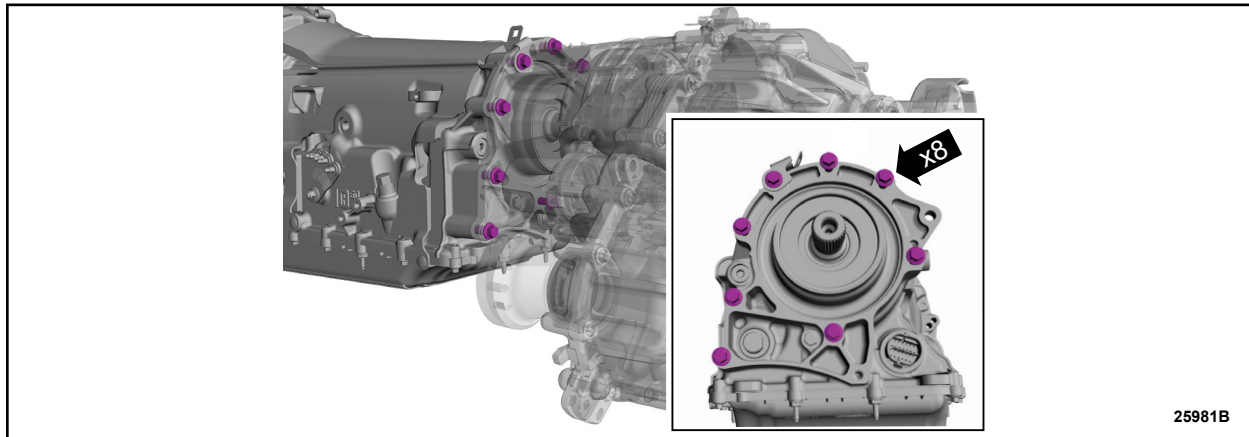
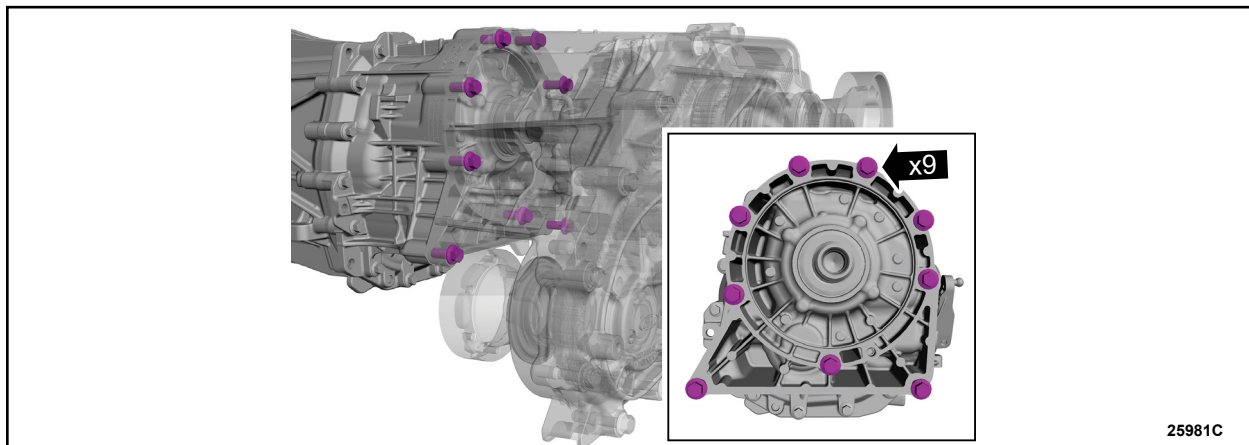

FIGURE 3
FIGURE 4
4. Visually inspect all of the bolts that secure the transfer case to the transmission. For vehicles equipped with an automatic transmission, see Figure 3 for transfer case bolt locations. For vehicles equipped with a manual transmission, see Figure 4 for transfer case bolt locations.